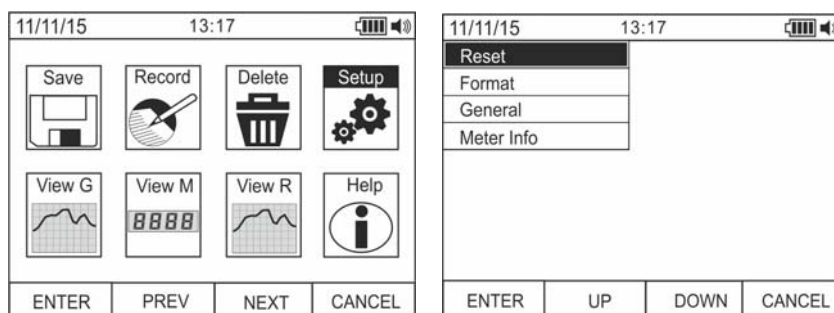

Fig. 13: General settings of the instrument
17. Use the **F2** or **F3** key to select symbol “Setup” and press the **F1** key (see Fig. 13 – left side).